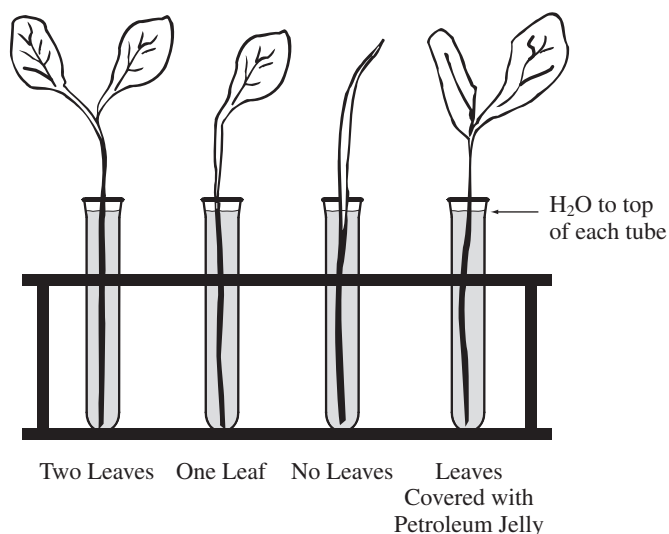

Figure 1.
4. Put the plant cuttings into the test tubes (see Figure 1).